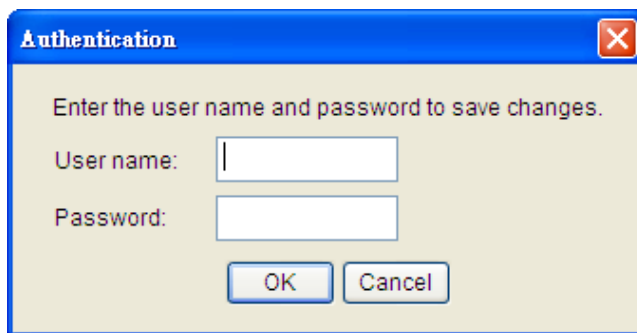

Figure 3 - Authentication window
- 7) You will need to enter a User Name and Password for the SNMP card in the authentication window, as shown in Figure 3. \*Default user name: **admin**; Default password: **admin**